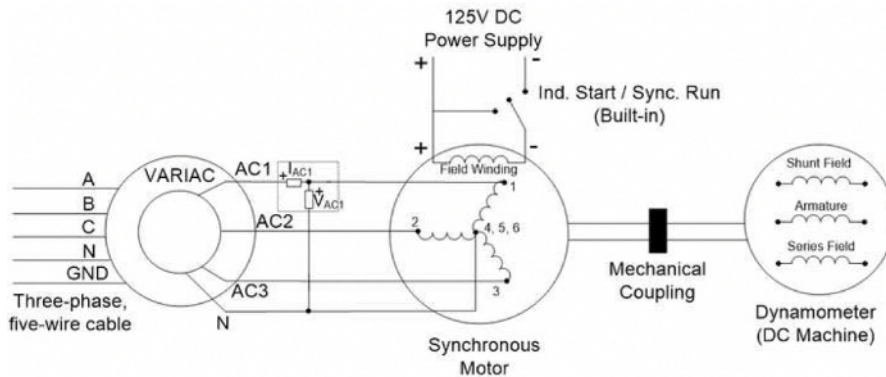

Figure 1: A schematic of the setup to start the synchronous motor. Please click here to view a larger version of this figure.
2. Wire the VARIAC to the three-phase outlet, and connect the setup shown in Fig. 1.